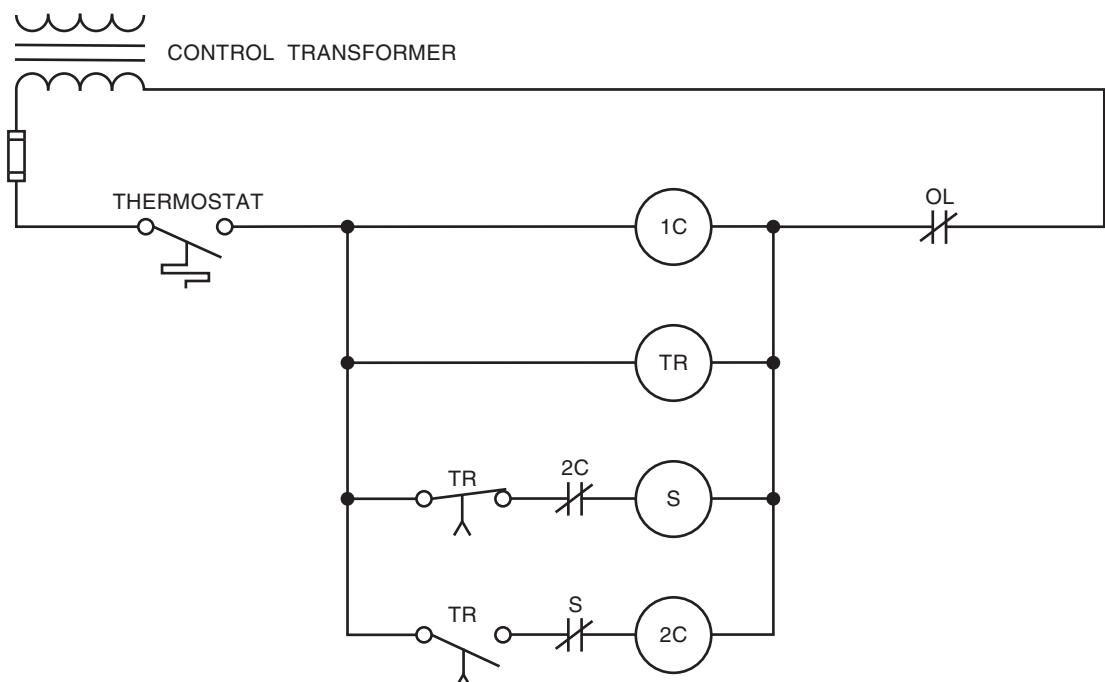

Figure 15–22
during the starting period and then reconnecting them in delta during the run period. If the stator windings are connected in wye, the inrush current will be one-third the value it would be if they were connected in delta. Assume that the motor stator windings have an impedance of 2.5 ohms each. Now assume that the windings are connected in delta, Figure 15–19. It will also be assumed that the motor is connected to a line voltage of 480 volts. In a delta connection, the phase voltage is the same as the line voltage. Therefore, when the C contacts close, 480 volts will be applied across 2.5 ohms. This will produce a current in each phase of 192 amperes.
Now assume that the same stator windings are connected in wye, Figure 15–20. In a wye connection, the phase voltage is less than the line voltage
Another consideration when using wye-delta starting is that the overload heaters should be sized for the phase current value and not the line current value. The basic stator connection for wye-delta starting is shown in Figure 15–21. Notice that the overload heaters are connected in the phase windings not in the line leads.
A basic control schematic for a wye-delta starter is shown in Figure 15–22. To understand the operation of this circuit assume that timer TR has been set for a delay of 3 seconds.
- When the thermostat contact closes, a current path exists through coils 1C, TR, and S, Figure 15–23.
- After a delay of 3 seconds, both TR contacts change position, Figure 15–24.
Another method for reducing the starting current of large three-phase squirrel-cage motors is part winding starting. Motors intended for use with part winding starting contains two separate stator windings, Figure 15–25. Each winding is rated for
▶ **Figure 15–26**
▶ **Figure 15–28**